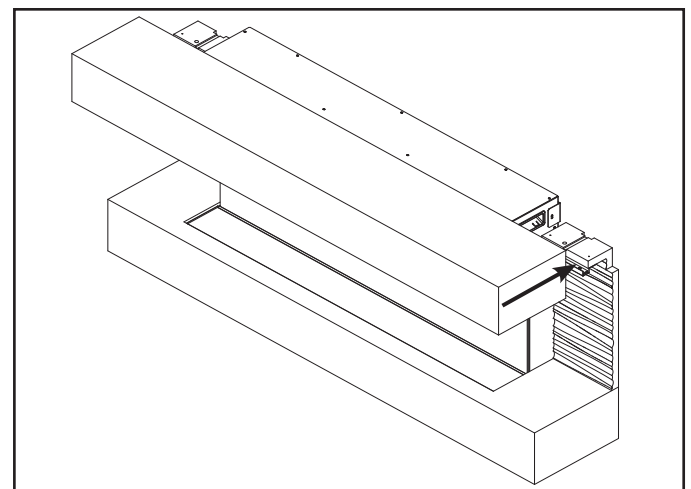

Figure 9
- Slide the top mantel section onto the appliance. See Figure 9.